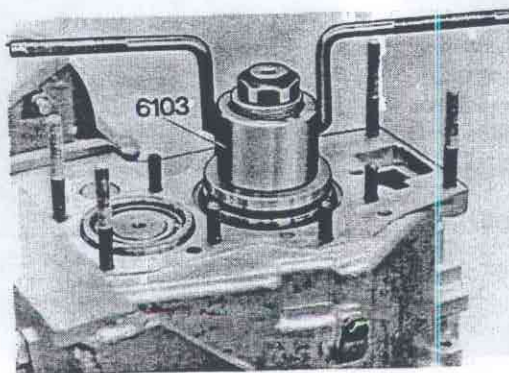

Fig. 43-116. Pressing in inner race
20. Remove press tool 6103 from the output shaft. Place the bearing inner race on the shaft. Fix on the tool and press in the race, Fig. 43-116. Remove the tool.